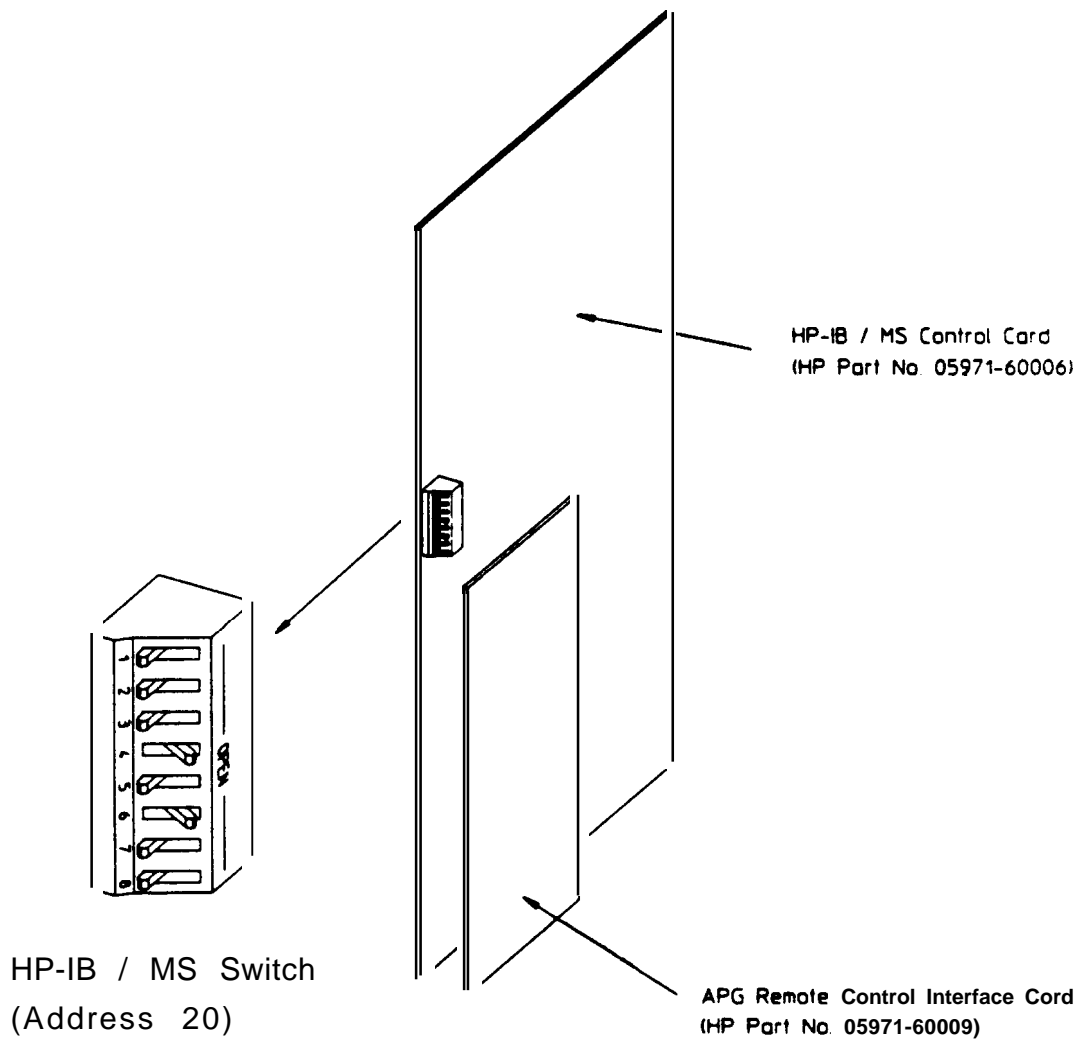

Figure 9. HP-IB/MS Control Card Switch Settings
1. Verify the HP-IB addresses of the MSD (20), GC (15), and ALS (8). Refer to Figures 9, 10, and 11, respectively, for the locations and settings of the HP-IB address switches.